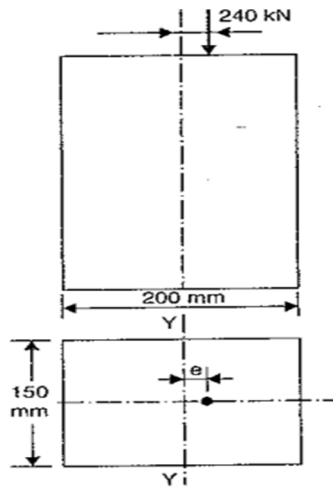

Figure Q3(c)
- c) A hollow rectangular column of external depth 1 m and external width 0.8 m is 10 cm thick. A vertical load of 200 kN is acting with an eccentricity of 15 cm as shown in Figure Q3(c).